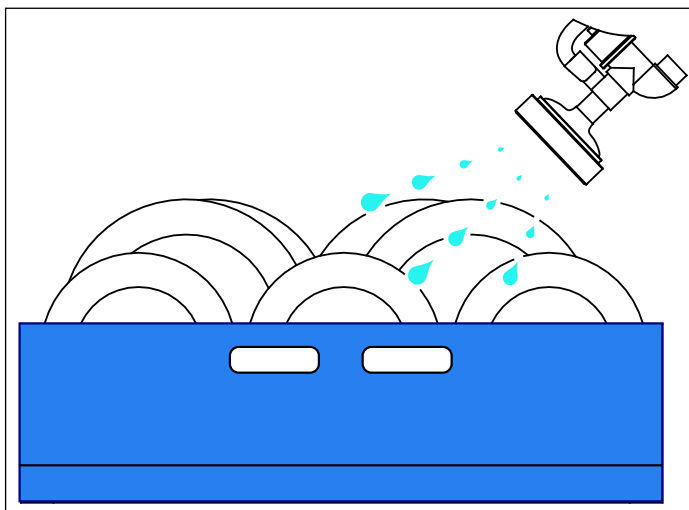

Fig. 6
- Wares should be scrapped and rinsed to remove large food particles and debris (Fig. 6).